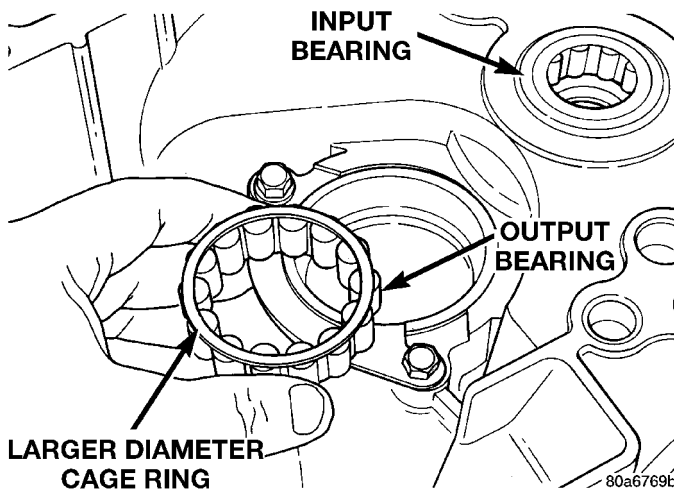

Fig. 123 Output Roller Bearing
- (1) Remove caged roller bearing from output bearing race (Fig. 123).